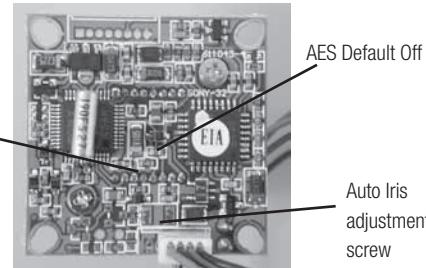

Figure 7
**AUTO IRIS LENSES.** The dip switches are factory set with AES off and backlight compensation on (**Figure 7**). The auto iris is also set at the factory, but an adjustment screw is included for use if needed. See page 10 for instructions on adjusting Auto Iris.